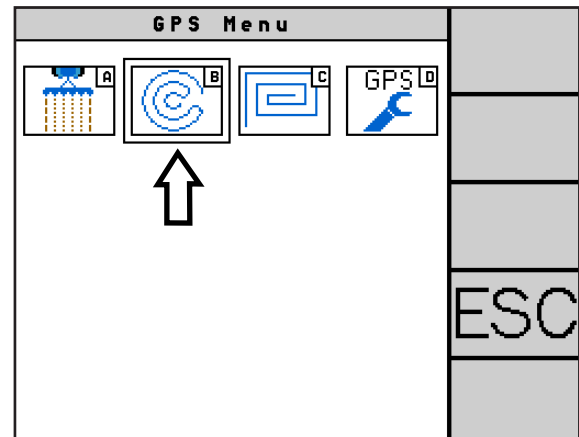

Fig. 162: Select “Circle track” mode
In the GPS menu, select “Circle track” (B) (see Fig. 162) to create circle tracks.